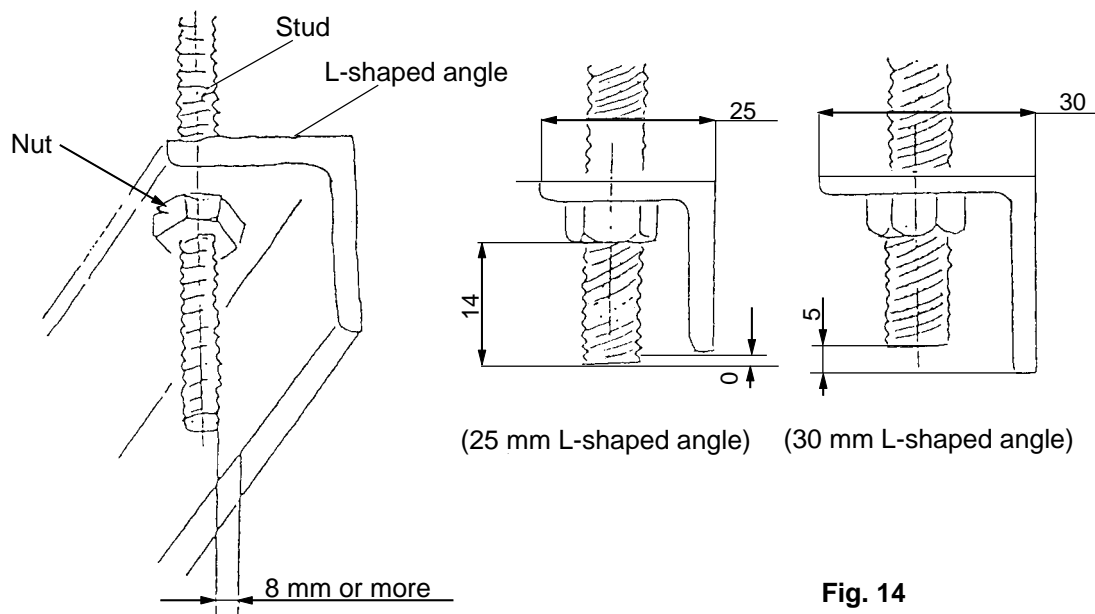

Fig. 14
(3) Care should be exercised when performing cutting in narrow places.
For example, in building construction work, studs that are used to hang ducts are often fitted with L-shaped angles. Instruct the customers to ensure that there is a clearance of at least 8 mm between the stud and the angle when 25 mm or 30 mm L-shaped angles are used, as illustrated in Fig. 14, before starting the cutting operation. If the clearance is less than 8 mm, Bracket (A) will come in contact with the side surface of the angle, preventing proper engagement of the threads of the cutters and the threads of the stud, and causing damage to the threads of the stud and/or the cutter blade.
Also, since the minimum cutting length of a stud is 14 mm from the surface of the nut, the stud can be cut off at a point 5 mm within the tip of the angle in the case of a 30 mm L-shaped angle, and approximately even with the tip of the angle in the case of a 25 mm L-shaped angle, as illustrated in Fig. 14. If cutting is attempted shorter than indicated, Bracket (A) will come in contact with the nut, causing possible damage to the cutter. Accordingly, particular caution is necessary.